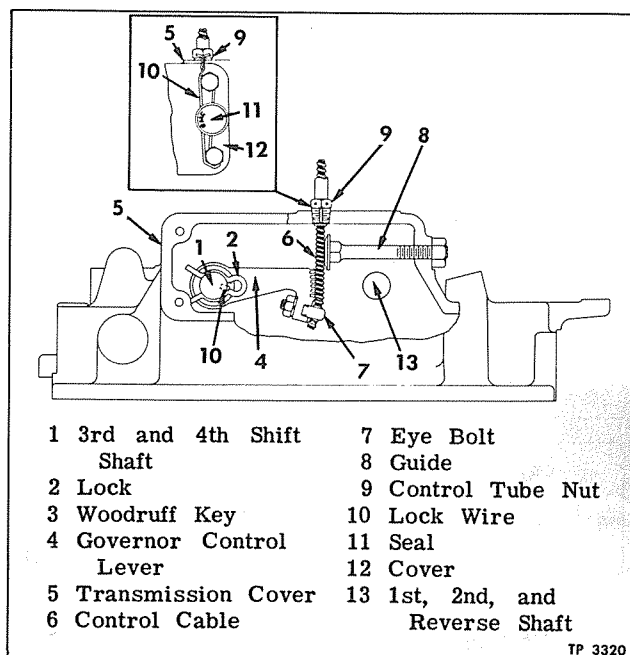

Figure 9—Duo-Speed Governor Control
4. Break seal wire (fig. 9) and remove plate inclosing duo-speed governor cable connection at transmission cover. Back off guide (8), loosen eye-bolt nut which clamps cable to lever, then unscrew tube nut (9) to detach governor cable tube from transmission cover. Lift tube and cable assembly away from transmission.
8. Remove plate enclosing duo-speed governor lever at transmission cover. Move governor control tube and cable into position with cable inserted through eye-bolt (7) in lever (fig. 9). Tighten tube nut into threads in transmission cover. Hold cable in exactly the same relationship to lever as it occupied before removal. If new cable is being installed, refer to "Duo-Speed Governor Adjustment" in Engine (Sec. 8B in this manual) for instructions on method of connecting cable to lever at transmission.
Be sure to tighten eye-bolt nut firmly and turn guide (8, fig. 9) in until inner end contacts cable, then tighten lock nut. After checking adjustment, the wire and seals must be installed as shown in figure 9.
1. Remove shift rod end plate (6).
4. Remove plug (1) from cover (13) and strike cover sharply on block of wood to remove interlock pins (3 and 5).
5. Remove lock from groove in 3rd and 4th shift shaft (10), then pull duo-speed governor lever (fig. 9) off end of shaft, and remove Woodruff key.
6. Remove clamp screws from third and fourth speed shift finger (9), drive finger over to expose Woodruff key and remove key. Shaft (10) with lever (12) may then be removed from cover.
7. Remove pin (24) from first, second, and reverse shaft (17) and remove collar (25).
8. Remove clamp screw from first, second and reverse shift finger (19).
9. Remove shaft (17) with lever (15) from cover, stripping off reverse spring (28) washers (27 and 29) and finger (19). Finger is held to shaft with key.
10. Solenoid shift lever (23) may be removed from cover by removing lever screw (22).
11. Guide (fig. 9) may be removed from cover after lock nut has been removed.